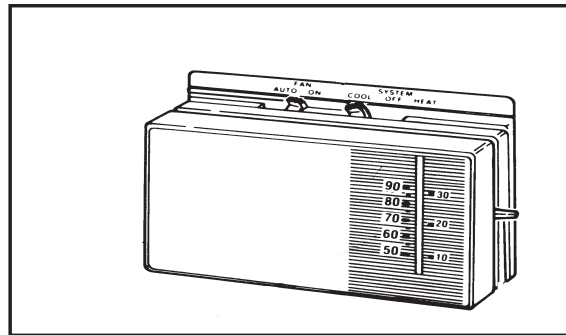

Figure 1. Typical Thermostat
1. Set the thermostat system switch to COOL or AUTO and the thermostat fan switch to AUTO. (See Figure 1)
1. Set the thermostat system switch to HEAT or AUTO and the thermostat fan switch to AUTO. (See Figure 1)
Set the thermostat system switch to OFF and the thermostat fan switch to AUTO. (See Figure 1). The system will not operate, regardless of the thermostat temperature setting.
Set the thermostat fan switch to ON (See Figure 1). The indoor blower will start immediately, and will run continually until the fan switch is reset to AUTO.